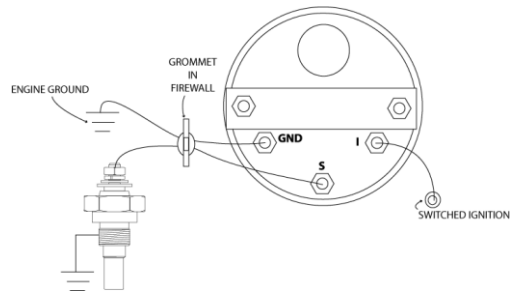

Figure 1
5. Using a length of 18 AWG wire, connect the sender signal terminal to the signal terminal on the back of the temperature gauge as seen in **Figure 1**.
**1.** Verify Wiring connections are correct according to the gauge wiring in **Figure 1**.